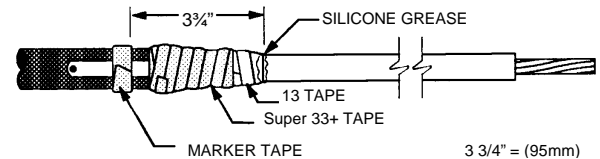

Figure 5
5. Wrap one half-lapped layer of highly stretched vinyl tape (e.g. Scotch™ Super 33+ Tape, not supplied in kit) over mastic strip and ground strap coil, to edge of previously applied 13 tape (**Figure 5**).
1. Place a marker tape $3\frac{3}{4}$ " (95 mm) back from the insulation end of the 13 Tape (**Figure 5**).
2. Cover the edge of the 13 Tape with a liberal coating of silicone grease (**Figure 5**). **NOTE: On this product, the silicone grease does not serve as a lubricant. It must be used to fill the step at the 13 Tape leading edge.** The silicone grease may also be used to fill in cable surface defects and can be applied over the ground strap seal to aid in core removal (**step C-4**).